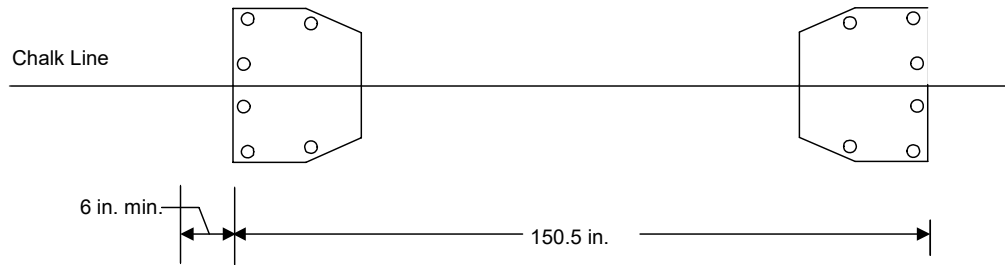

Figure 1 Column Layout
4. align the column center to the chalk line as shown in Figure 1.
5. Move the other column into place, center to the chalk line as shown in Figure 1.